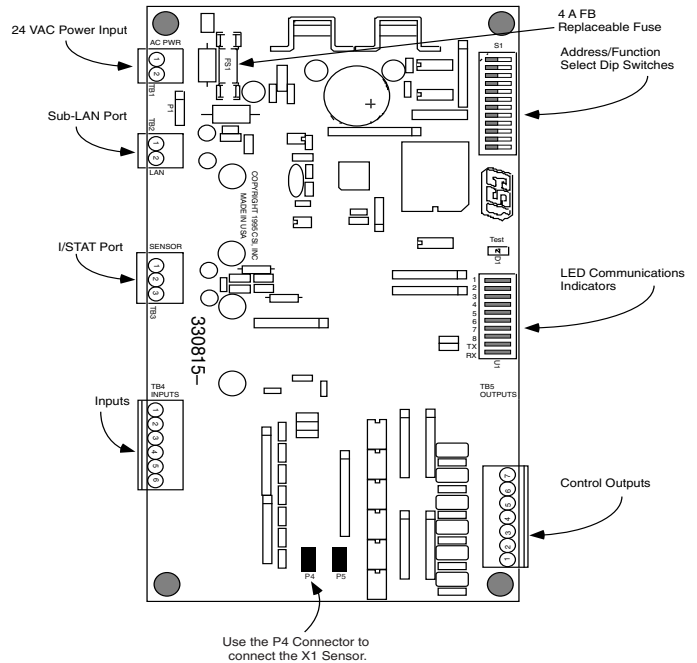

Figure 2. MR-VAV-X1 (Cover Removed)
2. You will not need to remove the plastic cover to install the MR-VAV-X1, or any of the connections. To replace the 4A FB fuse, remove the plastic cover, remove the old fuse and install a new fuse (see Figure 2).